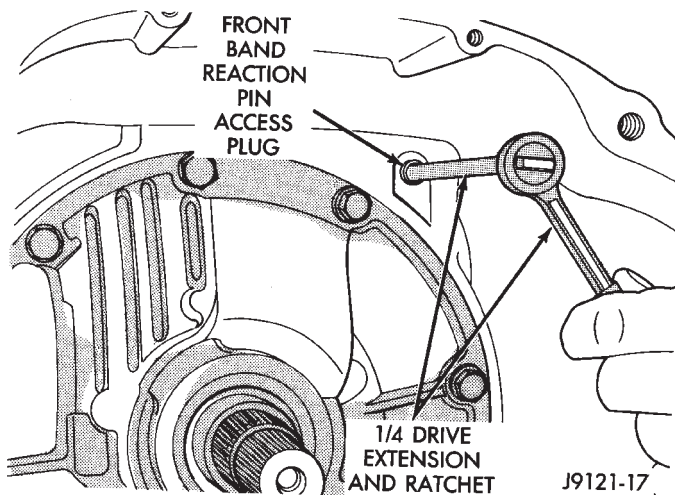

Fig. 101 Front Band Lever Pin Access Plug
(13) Remove front band lever pin access plug (Fig. 101). Use square end of 1/4 in. drive extension to remove plug as shown.